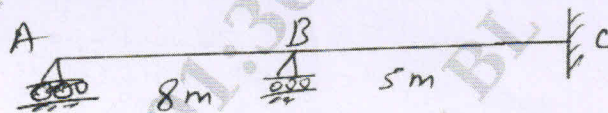

Fig. Q7
- 7 Analyse the beam shown in Fig. Q7 using stiffness method. Adopt displacement transformation approach. The top and bottom surfaces of the continuous beam are heated to  $20^\circ\text{C}$  and  $10^\circ\text{C}$  respectively. Take  $E = 2 \times 10^5 \text{ N/mm}^2$ ,  $\alpha = 1.2 \times 10^{-5} / ^\circ\text{C}$ . Draw bending moment diagram.